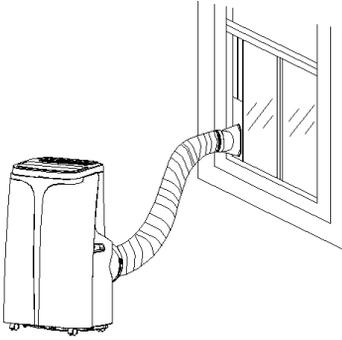
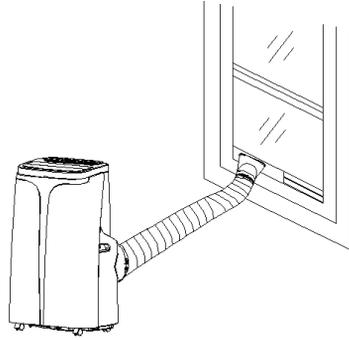

FIGURE 5
FIGURE 6
- Elongate the exhaust pipe and snap the flat end of the exhaust pipe joints into the hole of the window sealing plate assembly (as shown in Fig.5 and Fig.6) .